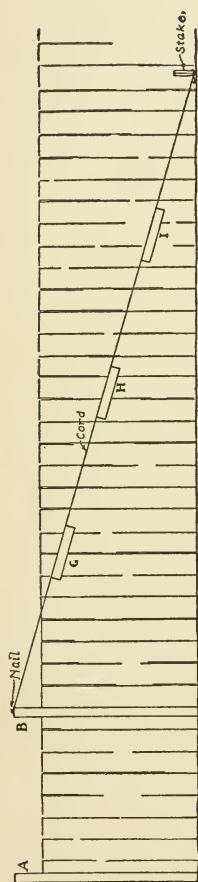
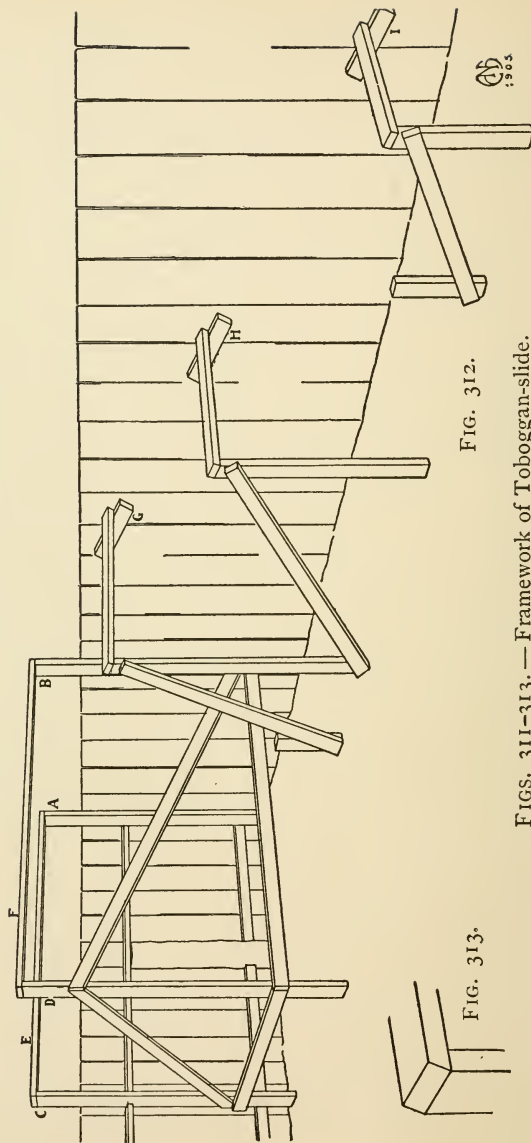

FIG. 311. — Way to lay out Pitch of Slide.
FIG. 312.
**A Platform** should be built in the corner, six feet square, and about seven feet above the ground. For this, cut four two-by-fours six feet nine inches long, fasten one in the angle formed by the two fences, and another five feet four inches to the right of it (*A* and *B* in Fig. 312). The third upright (*C*) should be nailed to the fence five feet eight inches from *A*, and the fourth (*D*) should be fastened at an equal distance from *B*. Then cut two pieces of two-by-four each six feet long, and nail them across the tops of *A* and *C*, and *B* and *D*, respectively, as shown at *E* and *F* in Fig. 312. The uprights should now be braced with horizontal and diagonal bracing, as shown in Fig. 312, to give the platform the necessary stiffness.
fence to a nail driven into the top of upright *B*. This cord, shown in Fig. 311, marks the pitch of the slide, and will give you a guide-line by which to work. When this has been done, cut three pieces of two-by-four about two feet long, and spike them to the fence just below the guide-line (see *G*, *H*, and *I*, Fig. 311), spacing them about six feet apart on centres. When these have been fastened in place, take a piece of two-by-four and mark off upon it the distance from the ground to the top of block *I*. Then square a line across the two-by-four at this point, at an angle corresponding to that at which block *I* is nailed to the fence (see Fig. 313). Saw the two-by-four on this line, and then stand it upright in front of block *I*, thirty or thirty-two inches from the fence (according to whether eight- or ten-inch boards are used upon the slide), and spike a piece of two-by-four to the top of it and to the top of block *I*, as shown in Fig. 312. Cut and set up a similar upright and cross-piece at *G* and at *H*, after which brace all as shown in the illustration (Fig. 312).